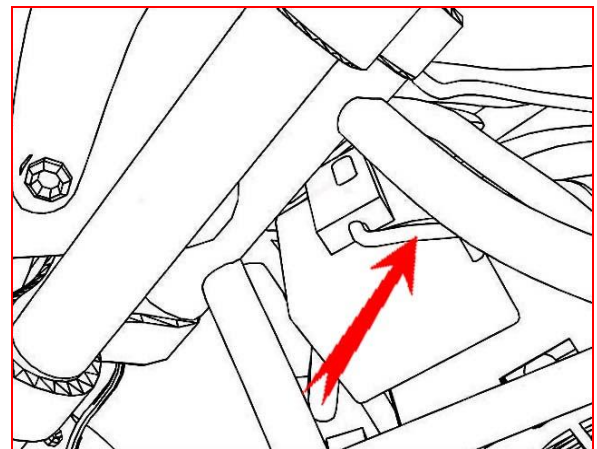

Figure 11
10. Route the TFI harness as shown. The TFI wiring should be between the frame and the OEM harness that goes over the battery negative. (see figure 11)